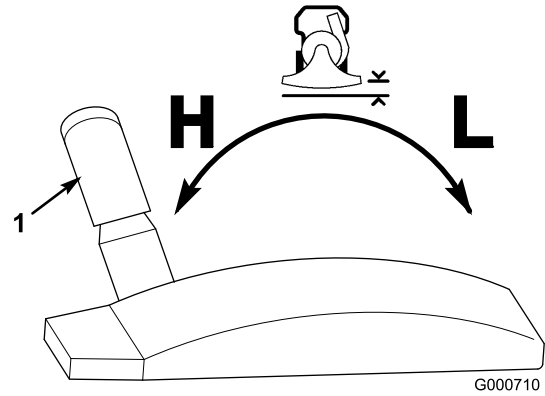

Figure 12
You can adjust the clearance between the air intake housing and the ground by moving height adjustment control (Figure 12) to desired position. Set the height to low (L) for vacuuming hard surfaces such as sidewalks or driveways and to high (H) for thick lush turf with a heavy covering of leaves or clippings. The vacuum will work best when you keep the intake as close to the ground as is practical for the task you are performing.